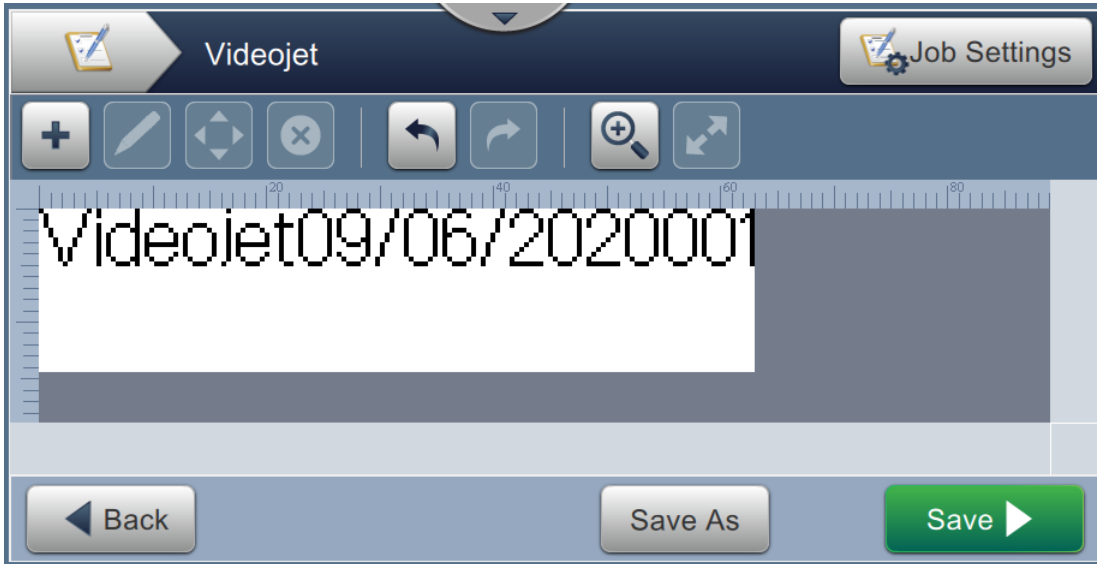

Figure 5-19: Sample Message
In the below section the user is guided to create a new job as shown in Figure 5-19 which consists of the following fields:
10. Select the field and either drag or use the  button to move the field to the location as shown in Figure 5-19 on page 5-36.
22. Select the field and either drag or use the  button to move the field to the location as shown in Figure 5-19 on page 5-36.
30. Select the field and either drag or use the  button to move the field to the location as shown in Figure 5-19 on page 5-36.